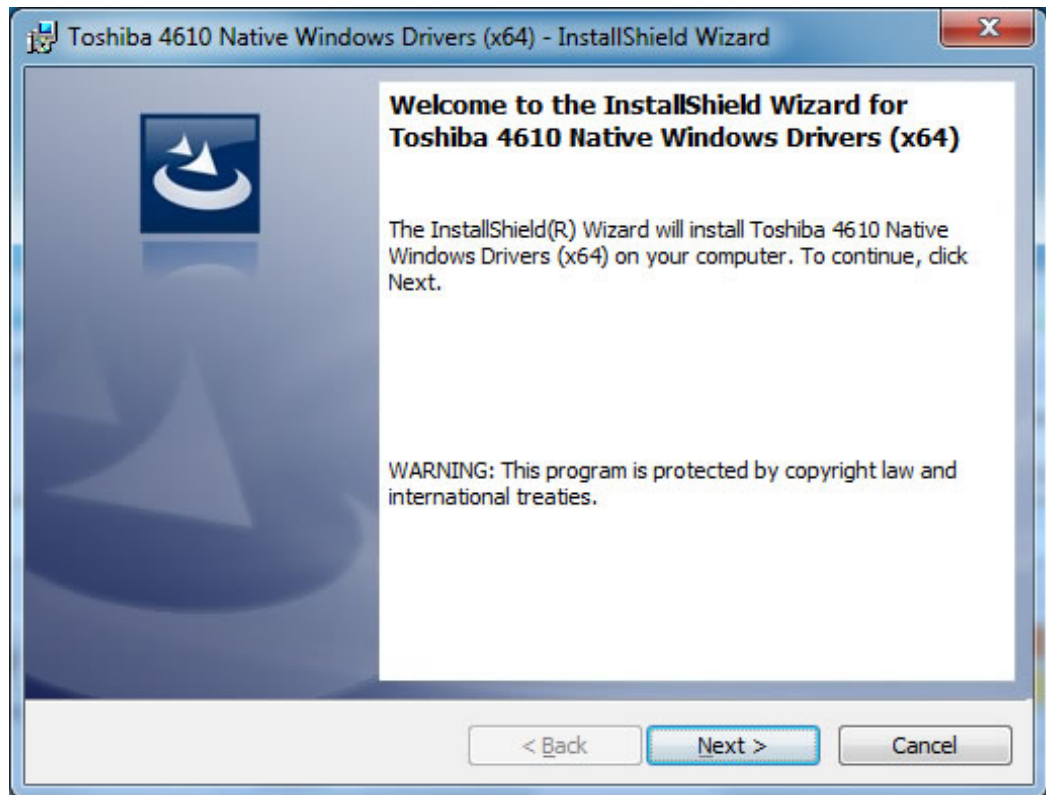

Figure 5. Welcome window
1. Double-click the setup.exe used to install the printer driver. The InstallShield Wizard Welcome window opens. See Figure 5.